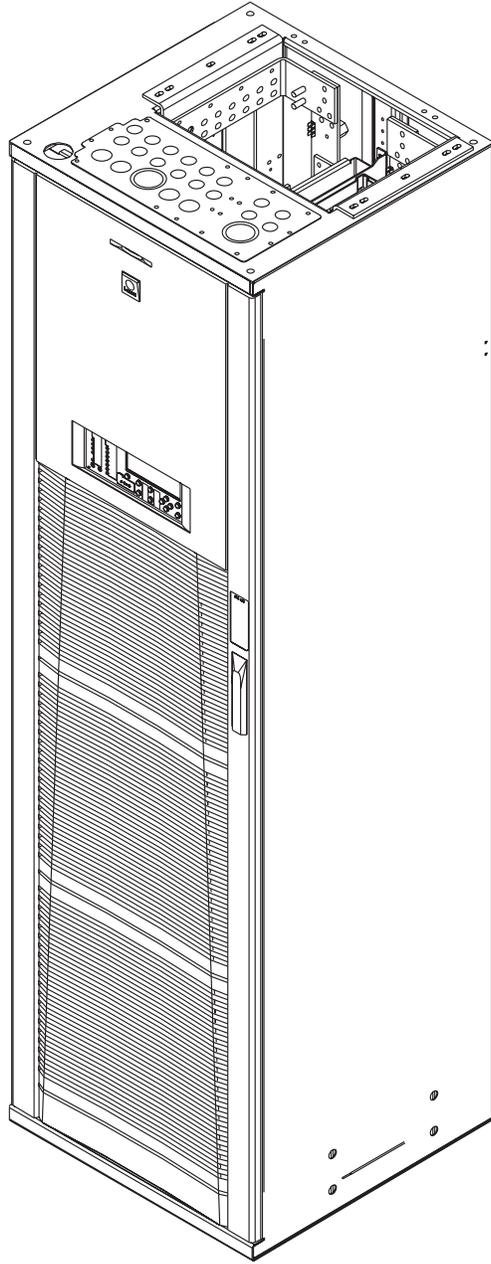

Figure 1-2: GPS 2424 Full Height Cabinet
Figure 1-2: GPS 2424 Full Height Cabinet	1 - 3
- The full height (7-foot) cabinet, shown in Figures 1-2 and 2-3, can provide up to 1200 amperes of dc power.